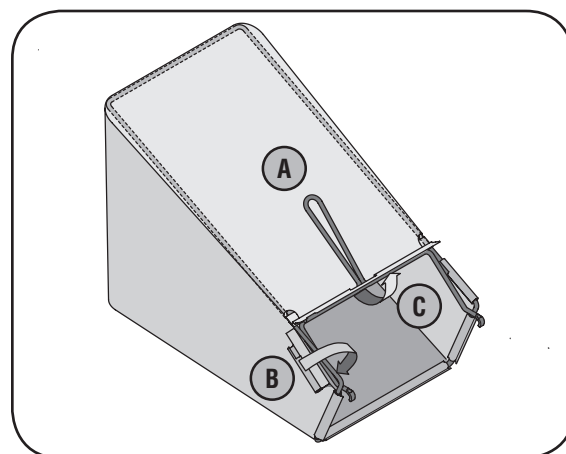

Figure 3-4
6. Before attaching the grass catcher, the rear mulching plug must be removed. Refer to Figure 3-4.